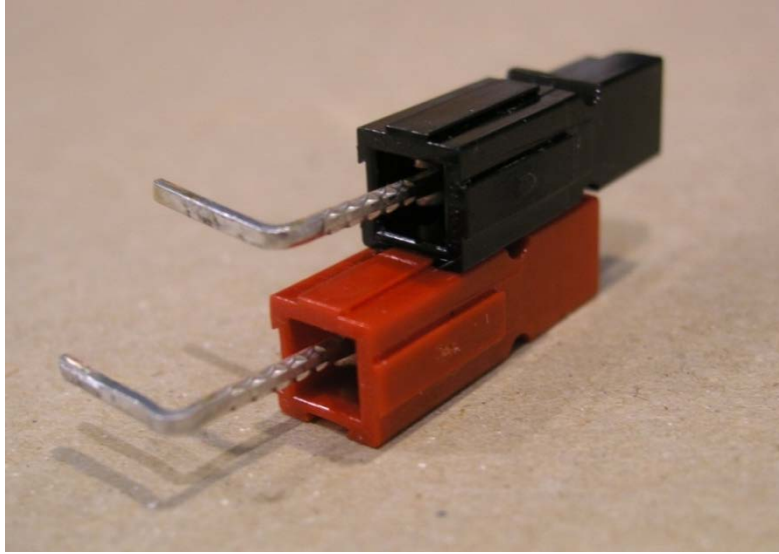

Figure 24. DC power connector bodies being joined together
10. The DC power connector bodies have rails and grooves on their sides that allow them to be joined together. Engage the rail of the red body with the groove of the black body and slide them together lengthwise as shown below in Figure 24. The ends of the connector bodies will line up when fully joined.